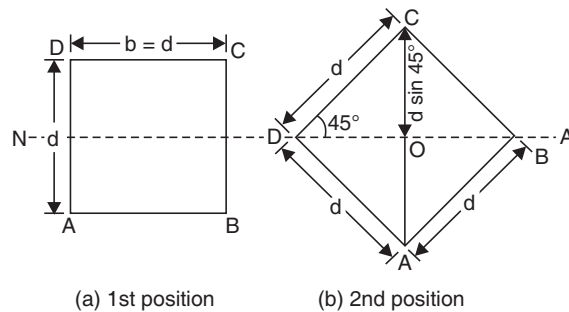

FIGURE 8.42
20. When beam is placed as shown in Fig. 8.42(a) 1st position, then bending stress is given by